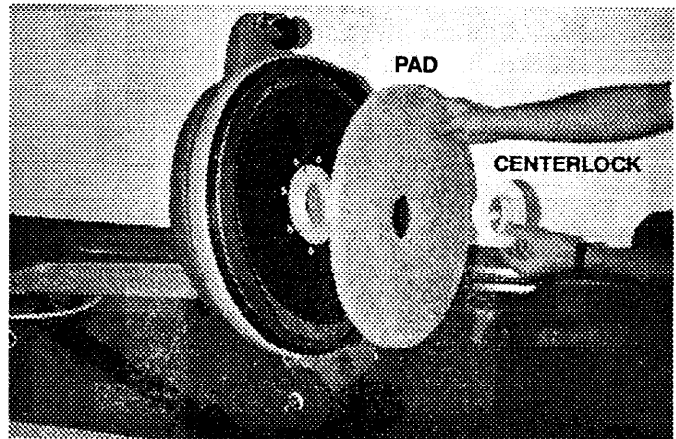

FIG. 2
5. Place selected pad on flexible pad driver and replace centerlock. Be certain centerlock is tight. (Figure. 2)